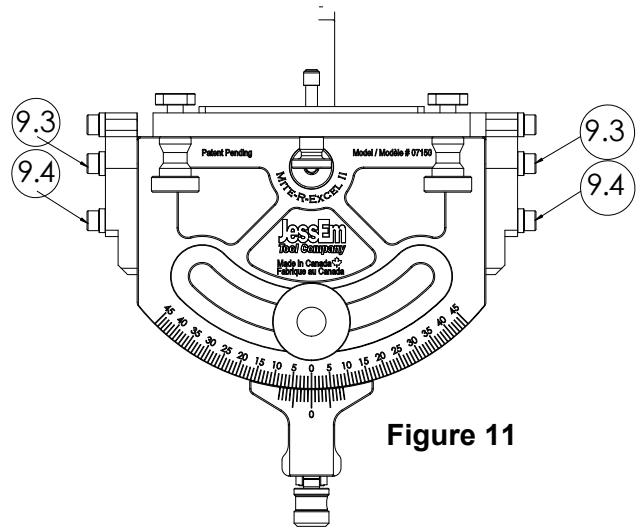

Figure 11
- b. Loosen off (4) Four #10-32 x 7/8" Socket Head Screw on both sides of the gauge (Part #9.3 & 9.4) as shown in **Figure 11**.